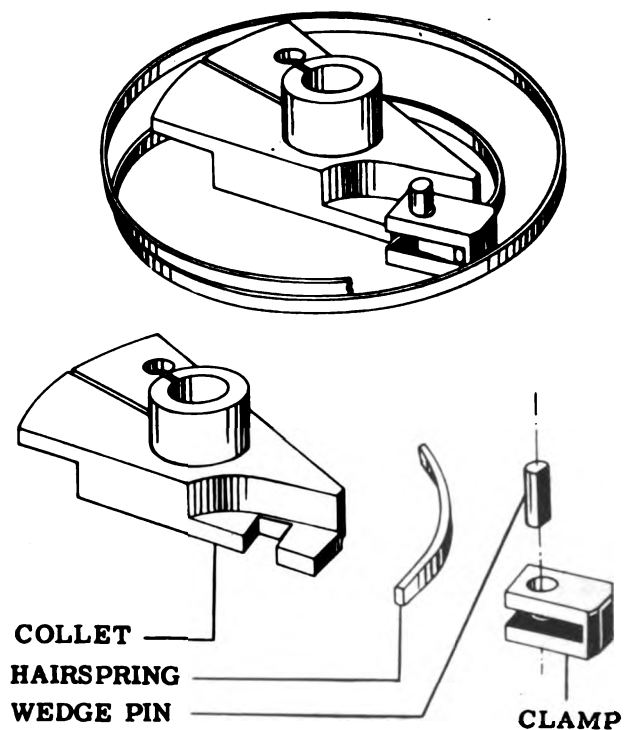

Figure 49
3. Place collet clamp on tongue of collet, or place stud clamp on tongue of stud. Fig. 49 shows relation of clamp to collet, which is similar in arrangement to the stud.